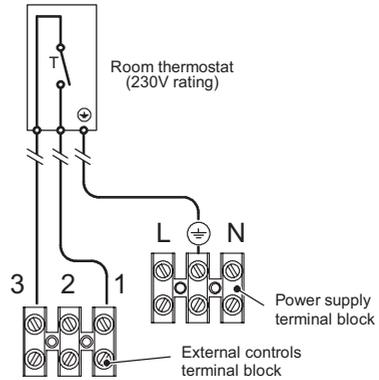
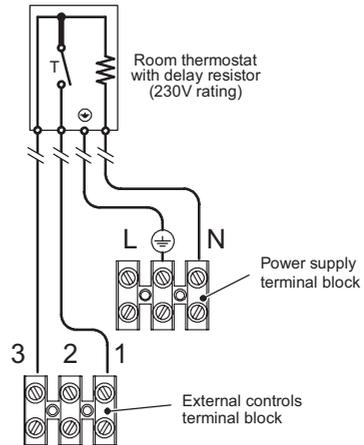

Fig. 6.14
Fig. 6.15
- Connect the room thermostat between terminals 1 and 3 as shown in Fig. 6.14 or Fig. 6.15.